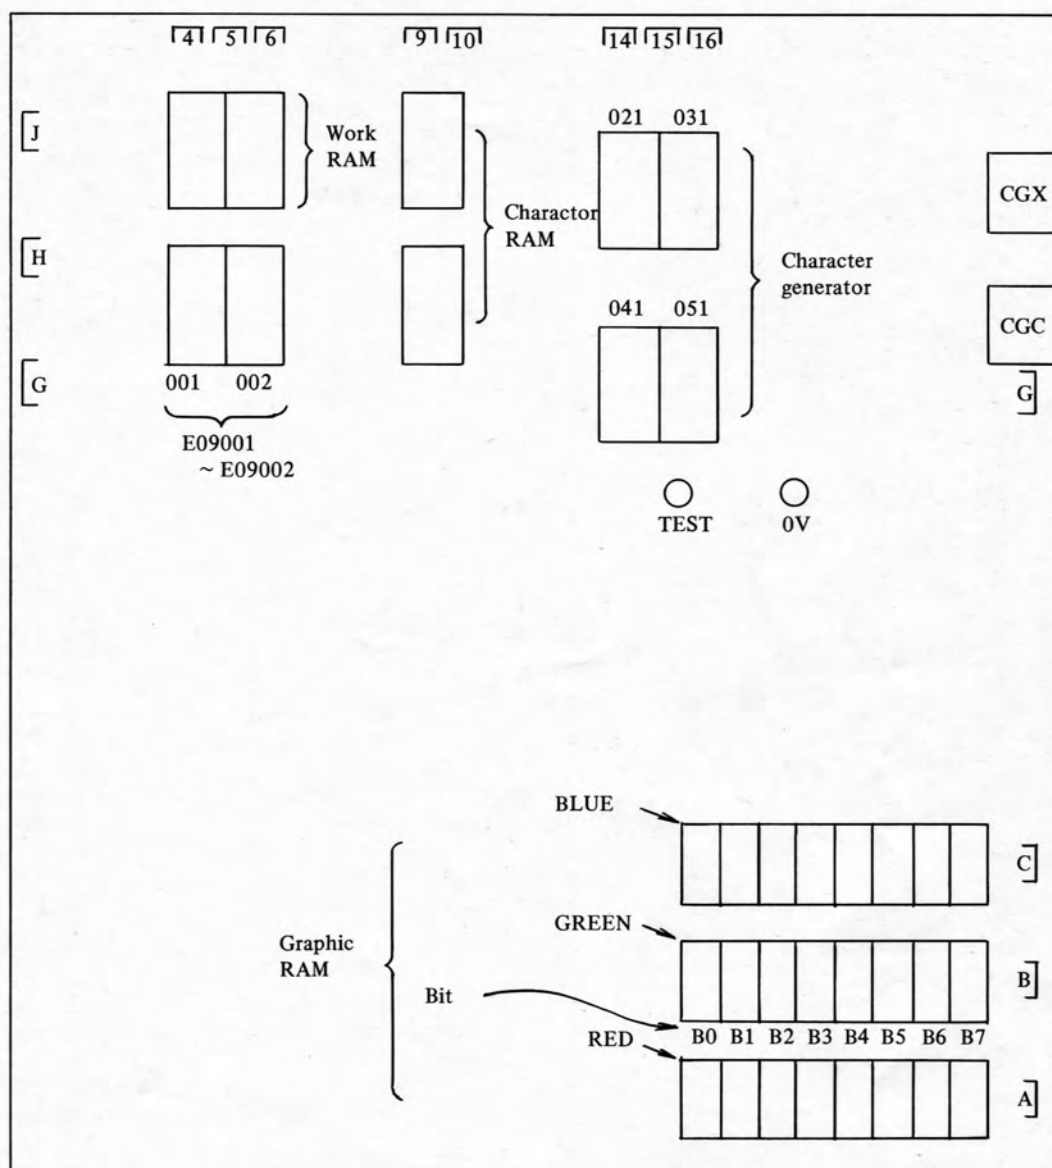

Fig. 2 Mounting diagram for graphic control PCB
- (2) When the TEST pin of the PCB in the 14" graphic unit is connected to 0V, the following tests are added (Fig. 2):